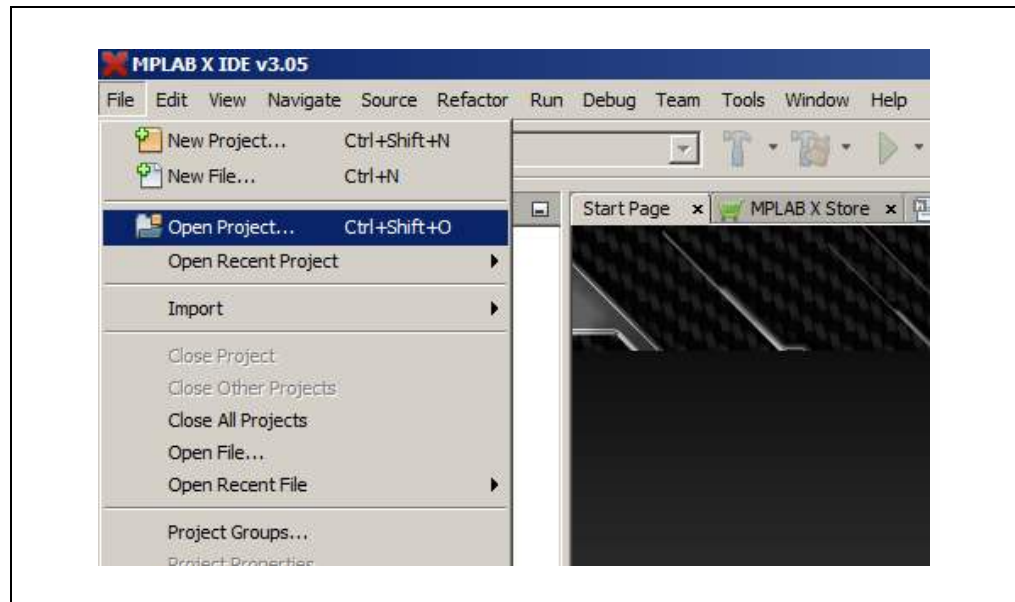

FIGURE 2-4: Opening Project in MPLAB X IDE.
- Open MPLAB X IDE to load the MCP19117 Flyback Stand-Alone firmware. From the File menu select **Open Project** (Figure 2-4).